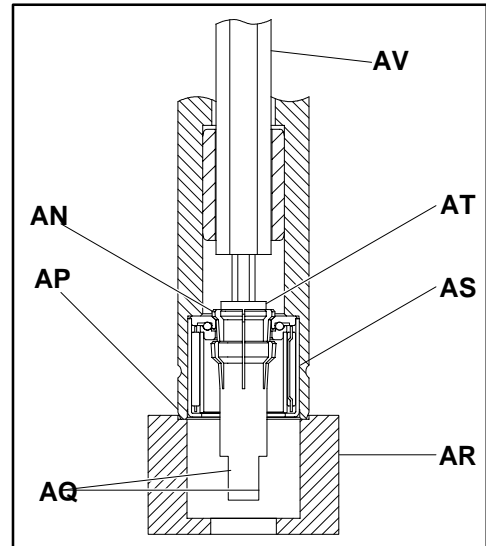

Figure 31
While holding the hex key wrench extension tool (AV of Figure 31), part number ☆25-08 or ◇25-08A, rotate bearing removal tool using flats (AQ) to tighten the bearing removal tool's tapered screw (AT) until the flair (AN) of the tool is completely spread open behind the bearing (AS).
1. Hold the pulley (BA) in an upright position with "V" block or other means. Support the bottom end of pulley (BA) using the bearing anvil/sleeve removal tool (AR of Figure 31), part number ☆25-09.